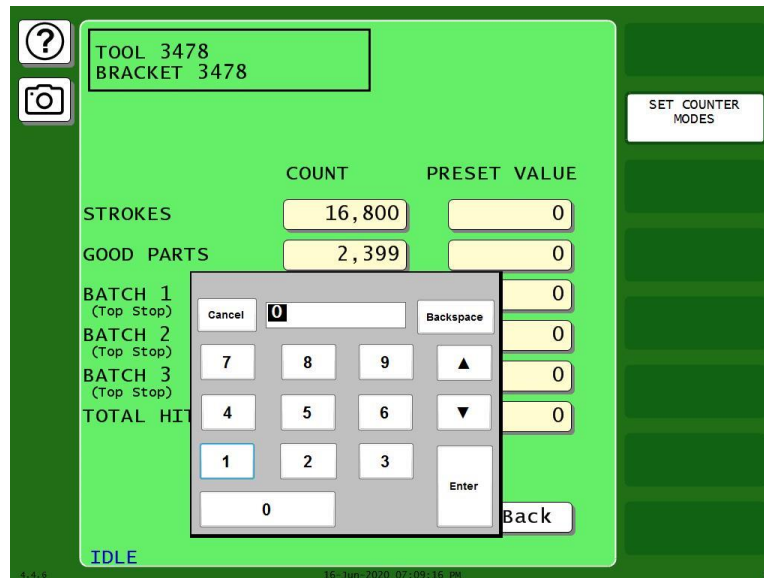

Figure 4-14. Count Preset Entry
2. Press the PRESET VALUE you want to enter. The Numeric Entry window displays, Figure 4-14.
1. On the Counters screen, select the setting displayed in the COUNT column of the counter you want to adjust. The Numeric Entry window displays, Figure 4-14.